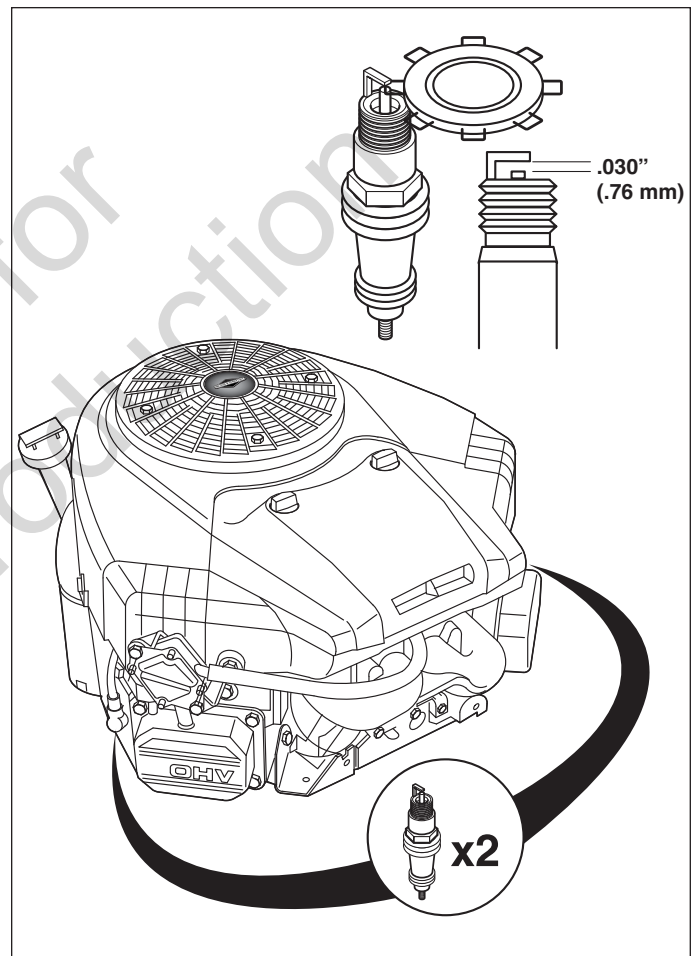

Figure 26. Spark Plug Gapping
2. Clean the area around the spark plug (see Figure 26).